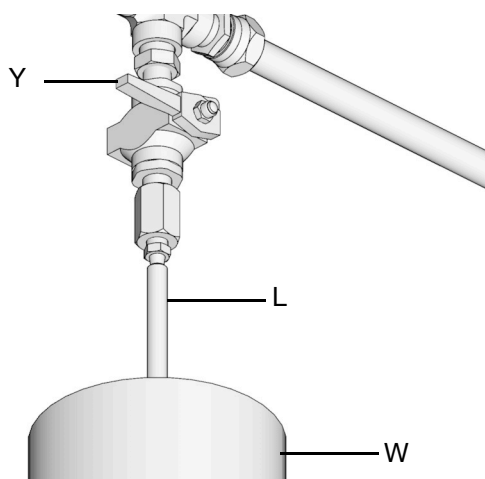

FIG. 25:
- a. To relieve pressure between the Refill Pump (F) and Auto-Fill Shut Off (B), open the Supply Hose Pressure Relief Valve (Y) (FIG. 25). Pressure will be released and excess fluid will drain out of the drain tube (L) and into the lubrication overflow container (W).